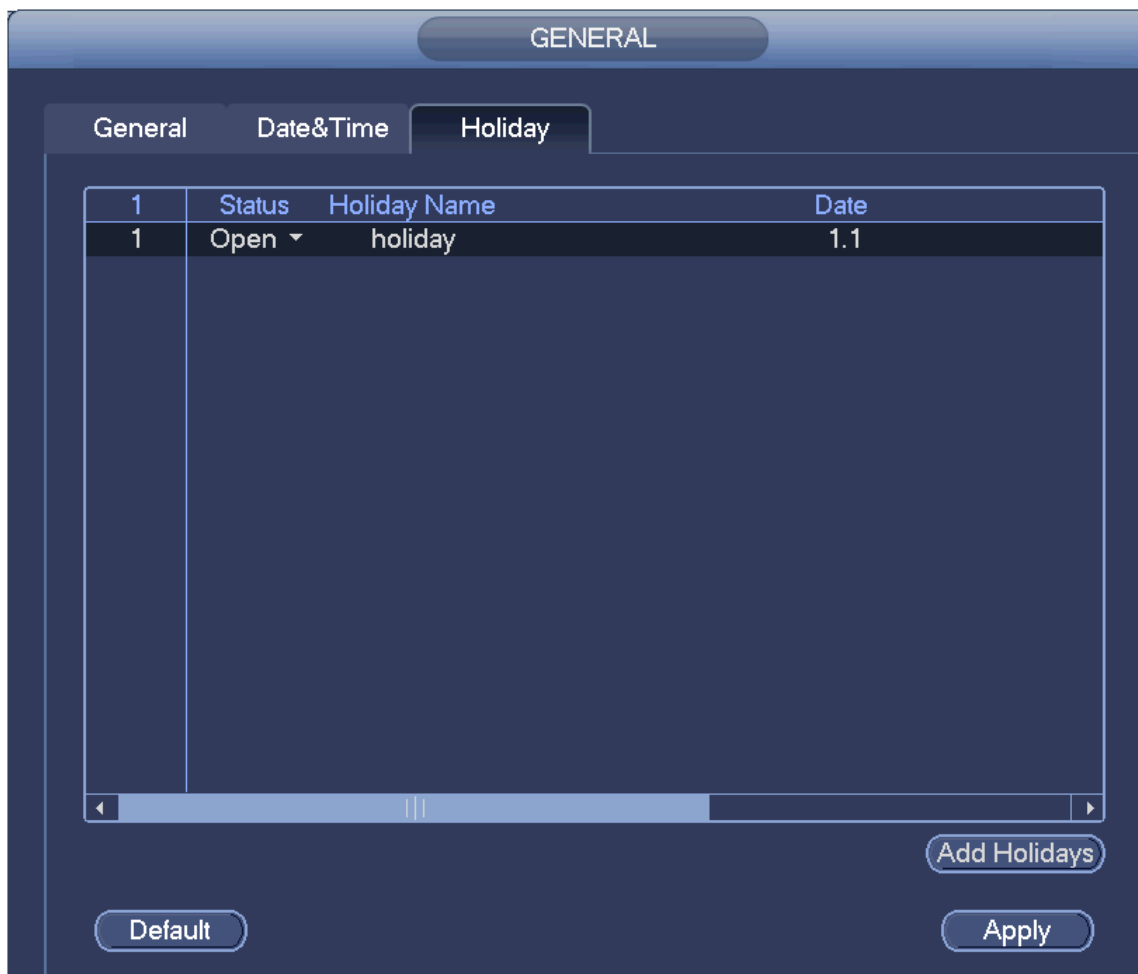

Figure 3-16
Step 4 Click Add button and you can add current holiday to the list. See Figure 3-16.